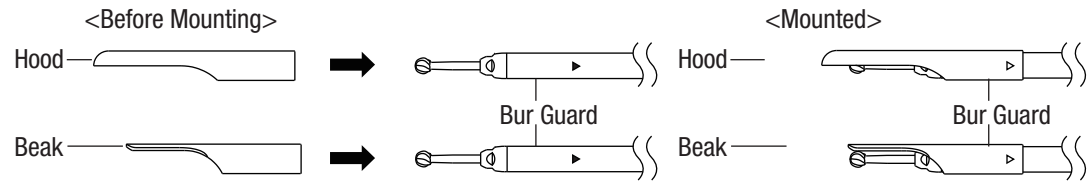

Fig.11
- 2 Mount the hood/beak on the Bur Guard (Fig.11).